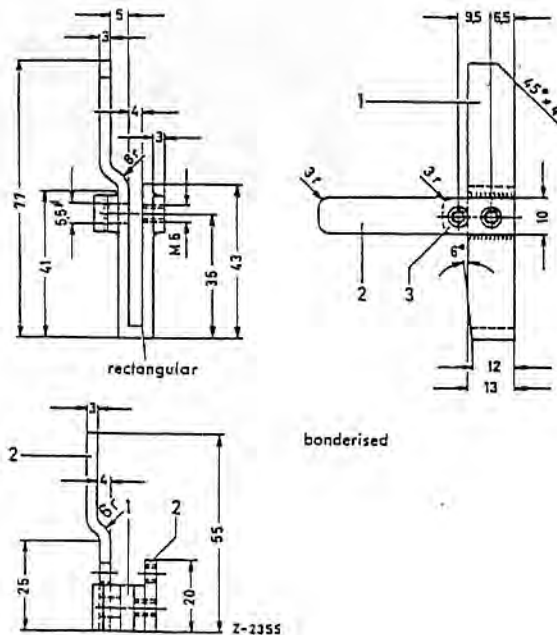

Fig. 00-16/6
1. Place Graduated Disk 111 589 04 23 on the axle of the throttle valve shaft and fasten it to the throttle valve lever (Fig. 00-16/5). Then fasten the wire pointer by means of the upper left fixing nut for the venturi control unit and bend it in such a way that **with the throttle valve completely closed it points to the 0° mark.**